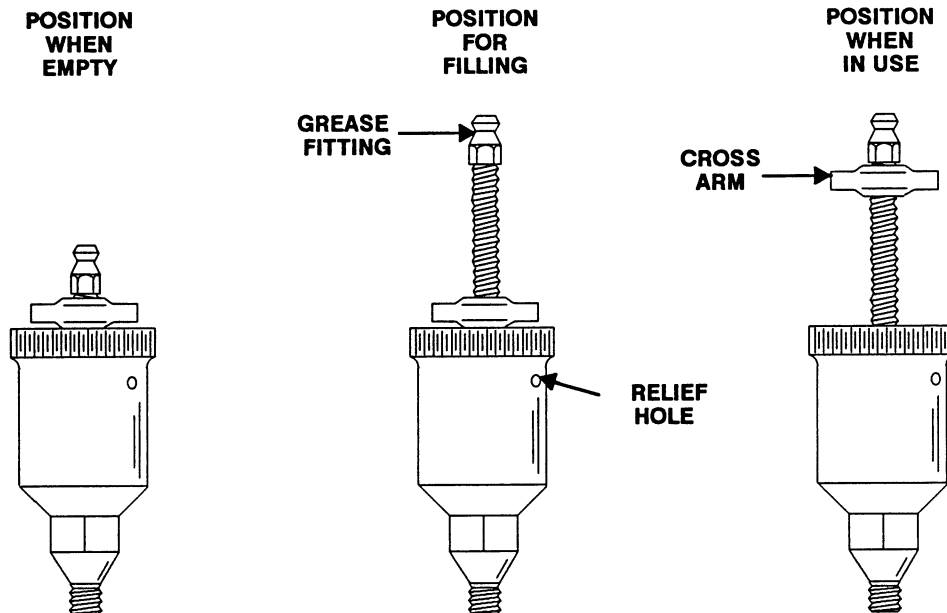

Figure 5. Automatic Lubricating Grease Cup
Before removing the impeller, turn the cross arm on the automatic grease cup (13) clockwise until it rest against the cover (see Figure 5). This will prevent the grease from escaping when the impeller is removed.
Fill the grease cup (13) through the grease fitting with No. 2 lithium base grease until grease escapes from the relief hole. Turn the grease cup arm counter-clockwise until it is at the top of the stem; this will release the spring to apply grease to the seal (see Figure 5).